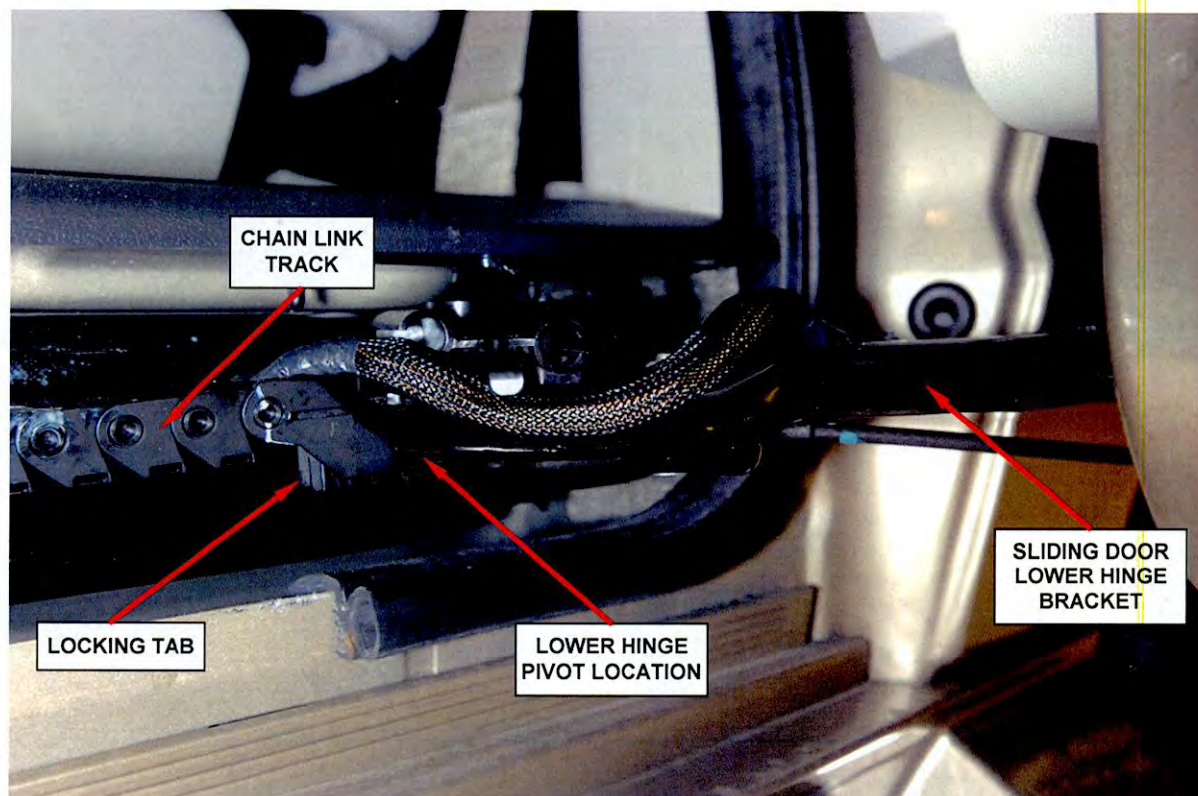

Figure 5 – Chain Link Track Removal
11. Release the chain link track from the lower hinge pivot by pushing the locking tab forward and then push the chain link downward (Figure 5).
21. Install the supplied tab/wedge on the lower hinge pivot located on the sliding door lower hinge (Figure 5).
23. Lock the chain link in place by pushing the locking tab rearward (Figure 5).